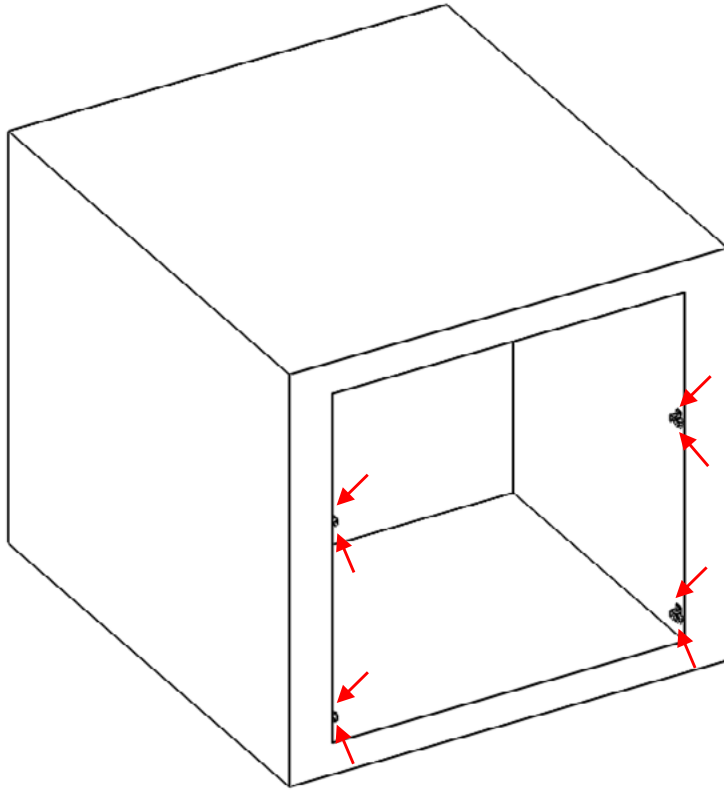
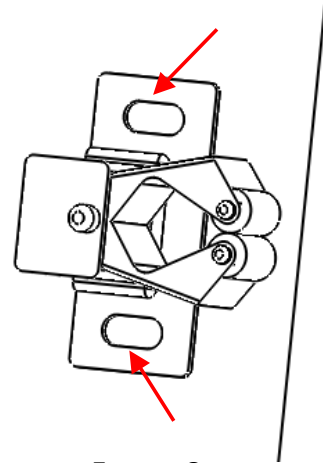

Figure 8
Figure 9
4. Next, slide the outer trim into the cabinet cutout and use a marker or pencil to mark where the buckles line up. Then, remove the trim and secure the four buckle seats into the cabinet using the other eight #2 screws (see *Figure 8*). Make sure the clamp of the bucket seats are facing toward you (see *Figure 9*).